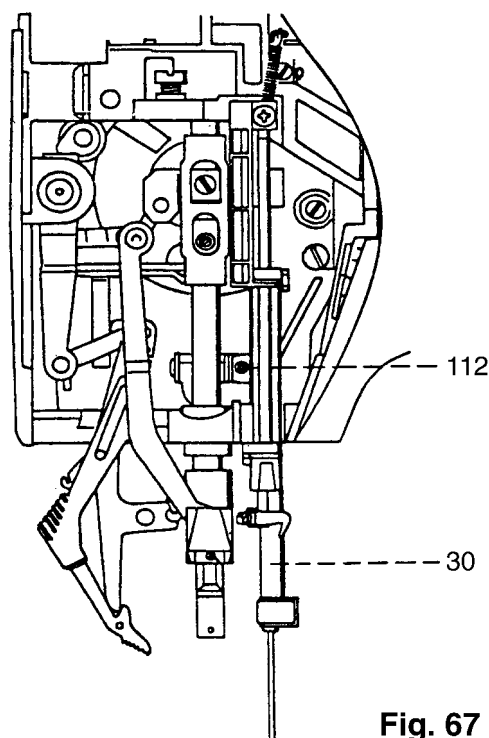

Fig. 67
- Loosen screw 112 just a little (fig. 67).